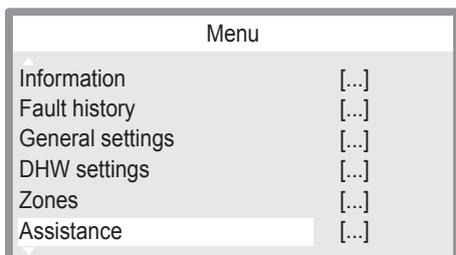

Figure 11.13
- 6 Press button "A" or "B" (Figure 11.11) to select the desired menu (Figure 11.13).